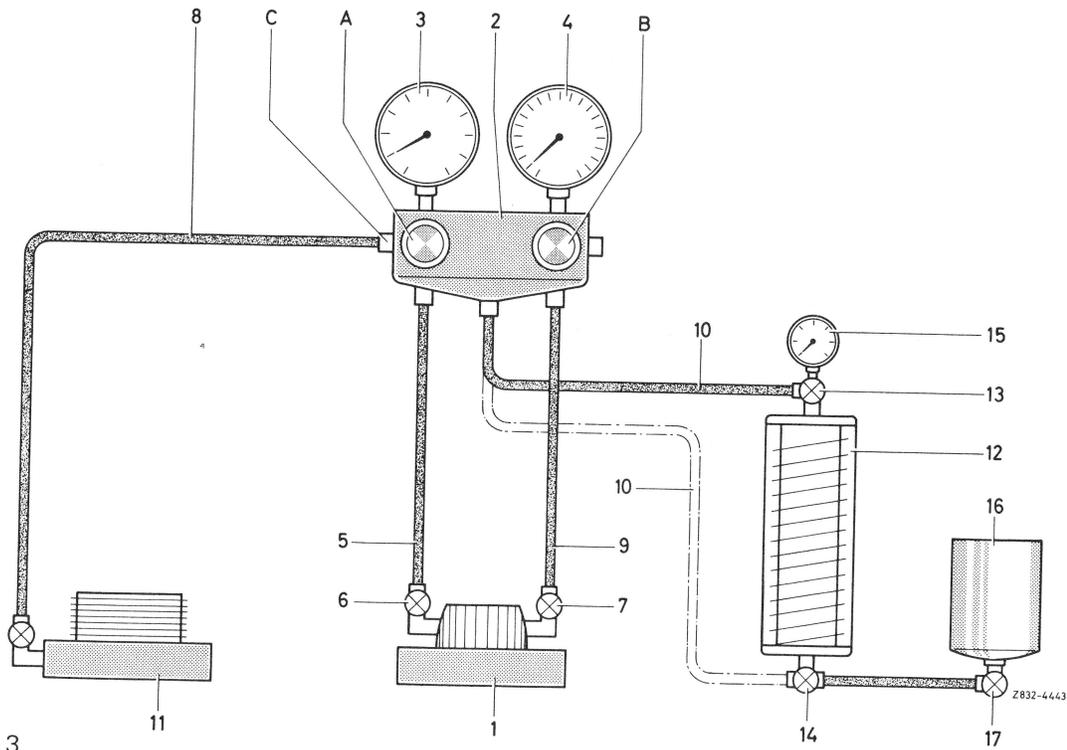

Figure 3
- 2 Connect hoses (5 and 8 to 10) — as shown in Fig. 3. Make sure that the angular end of the hose (8) with the pressure pin for operating the Schrader valve is connected to connection C on the gauge set (hoses without pressure pin cannot be used here!).
- 2 Connect hoses (5 and 8 to 10) as shown in Fig. 3. Make sure that the angular end of the hoses 5, 8 and 9 with the pressure pin for operating the Schrader valve is connected to connection C on the gauge set or on the connection of the two service valves (hoses without pressure pins cannot be used here).